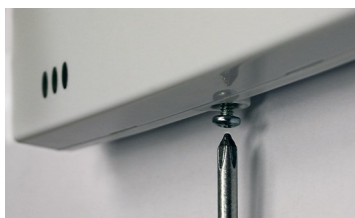

Fig. 3: Bottom Screw
3. Close the housing cover by first engaging the hooks at the top, then snapping the bottom together. Secure the cover with the Bottom Screw provided as shown in Fig. 3.